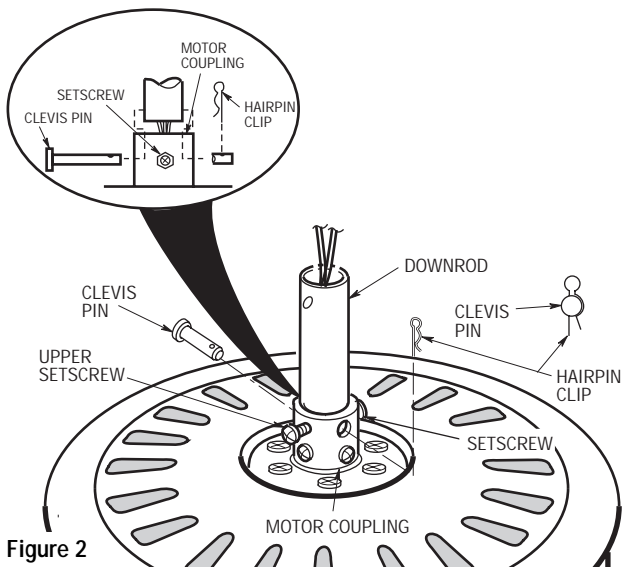

Figure 2
2. Separate, untwist and unkink the three 80" motor leads. Route the motor lead wires through the downrod. Remove the upper setscrew from the motor coupling. Align the clevis pin holes in the downrod with the holes in the motor coupling. Install the clevis pin and secure with the hairpin clip (Figure 2). The clevis pin must go through the holes in the motor coupling and the holes in the downrod. Be sure to push the straight leg of the hairpin clip through the hole near the end of the clevis pin until the curved portion of the hairpin clip snaps around the clevis pin. The hairpin clip must be properly installed to prevent the clevis pin from working loose. Pull on the downrod to make sure the clevis pin is properly installed. Reinstall the upper setscrew in the motor coupling. Check that the lower setscrew is tightened securely (Figure 2).